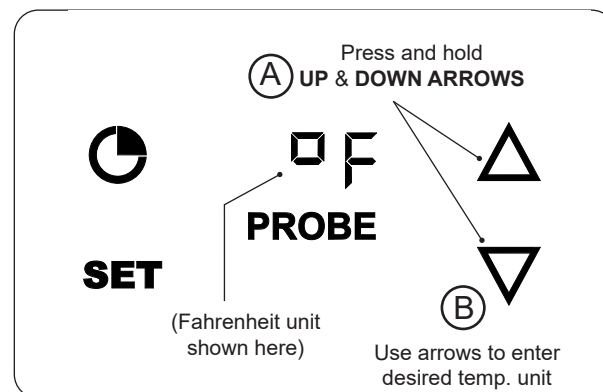

Fig. 32-4 Change temp. unit
1. Press and hold the **UP** and **DOWN** arrows until °F or °C is displayed (Fig. 32-4, A).
2. Press the **UP** or **DOWN** arrow to select the desired temp unit (Fig. 32-4, B).